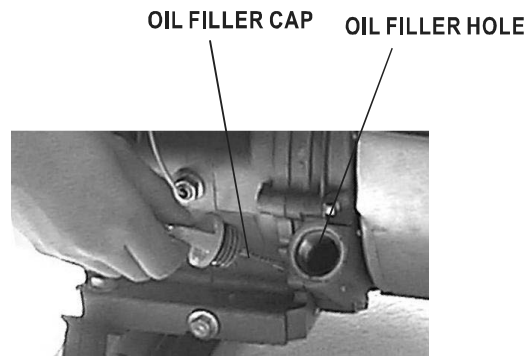

Figure 20- Checking the oil
2. Remove the oil filler/dipstick cap from the engine as shown in figure 20 above.